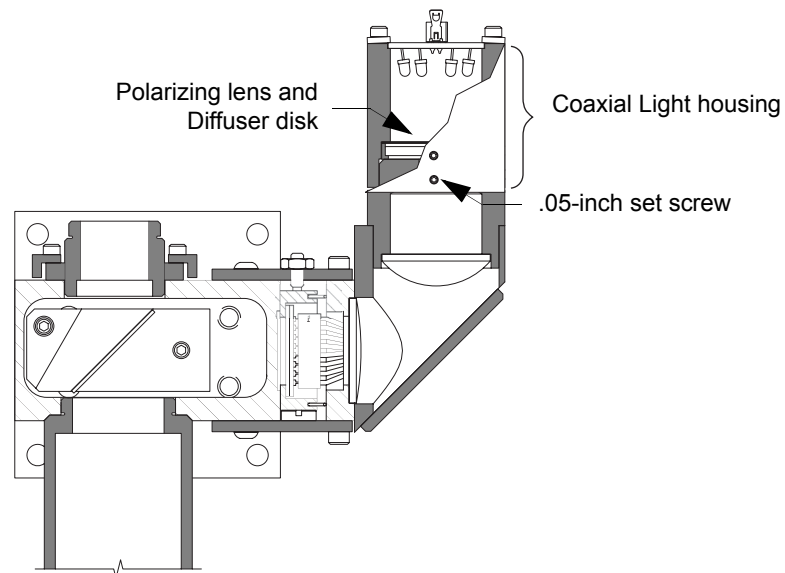

Figure 8-12 Coaxial Polarizer Alignment
7. Loosen the 0.05-inch set screw that secures the Coaxial Light housing; see Figure 8-12.